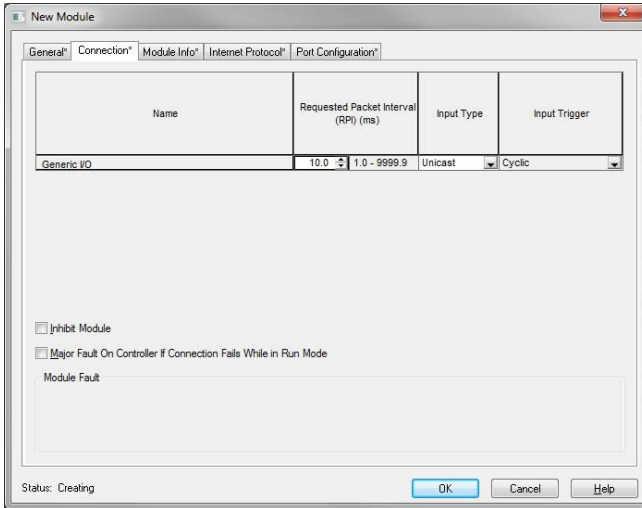

Figure 30: AOP New Module Properties Connection Tab
- 13) Click on the "Connection" tab. Refer to Figure 30.